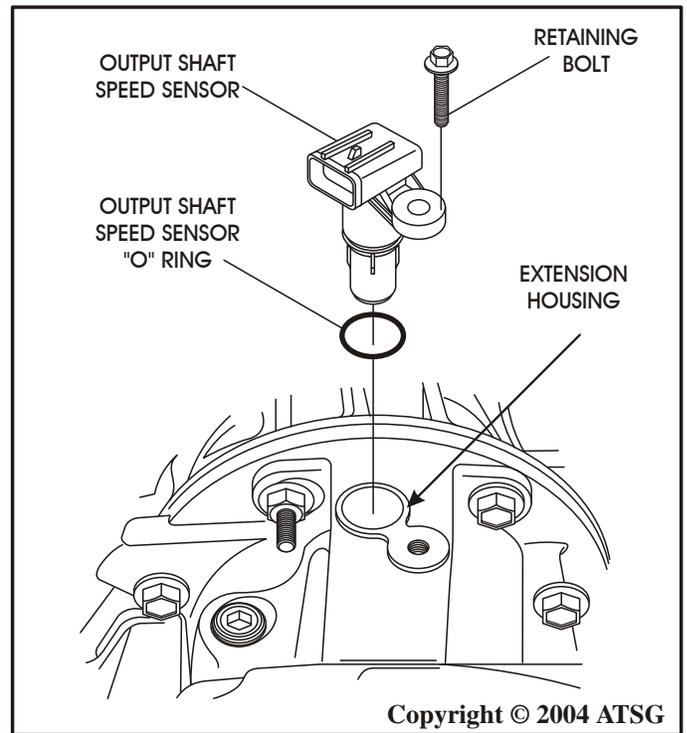

Figure 187
50. Install new "O" ring on output shaft speed sensor, as shown in Figure 187.
51. Lubricate "O" ring and install the speed sensor as shown in Figure 187.